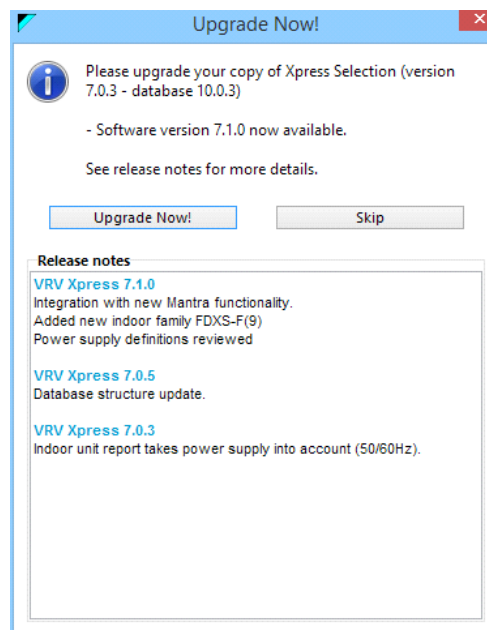
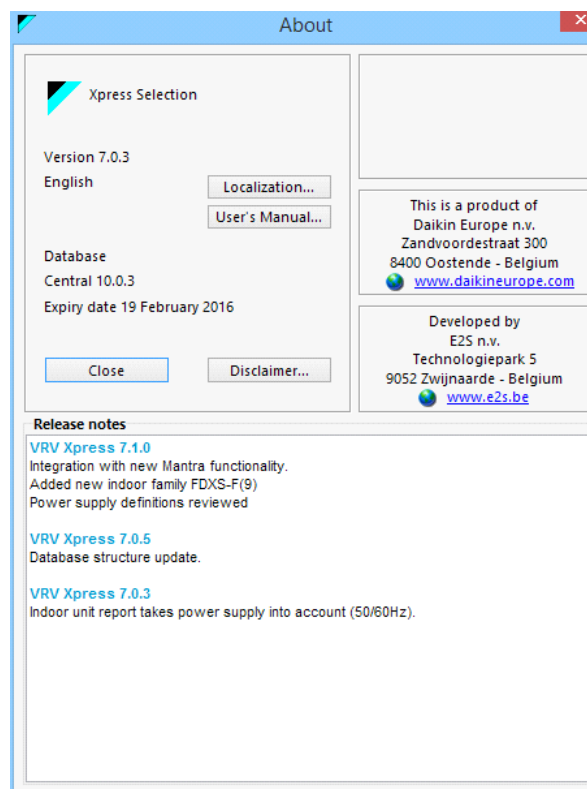

Figure 19: Showing release notes
Figure 21: The release notes in the About Window
- Click the "**Release Notes**" command button to display the release notes about the new version, from the current version up to the latest version on the central server (see Figure 19):
1. The "*Release Notes*" command button shows the release notes in the same way as in the upgrade window (see Figure 19). The only difference is that they now appear below the About window, as shown in Figure 21: